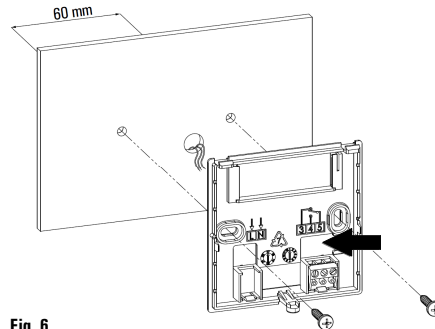

Fig. 6
- 4 Fix the base directly on a wall or on 2-modules wiring boxes through the two screws seats with 60 mm wheelbase paying attention to push the cables through the hole as shown in Fig. 6.